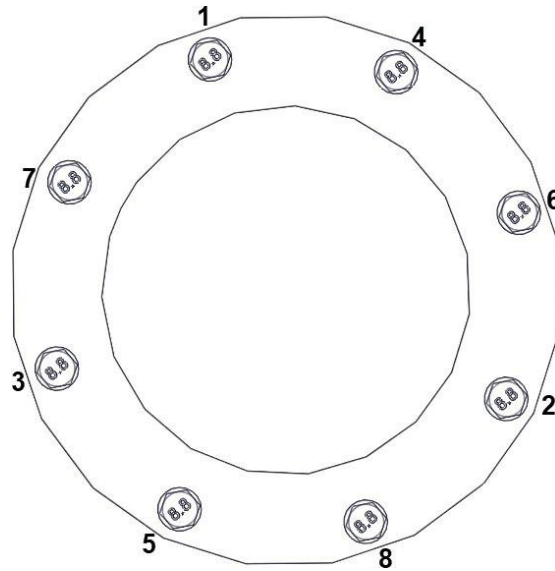

Figure 44. Explosion Relief Valve Torquing Sequence
10. Insert and torque down the eight washers and bolts in the below sequence to 27 ft/lbs. (Refer to Figure 44.)
2. Carefully insert and torque down the spark plug (Figure 44, Item 7) to 25 ft/lbs.
3. Apply dielectric grease (Permatex Dielectric grease #81150 or equivalent) to each coil (Figure 44, Item 6).
4. Install ignition coil bracket (Figure 44, Item 5) and torque down the two ignition coil bracket bolts (Figure 44, Item 1) to 17 ft-lbs.
5. Insert the coil boot (Figure 44, Item 6) into the spark plug tube (Figure 44, Item 7) and press firmly to ensure it fully seats on the spark plug, Install the ignition coil on top of the boot.
6. Insert the ignition coil bolts and spacers (Figure 44, Items 2 & 3) and torque down the bolts to 80 in-lbs.